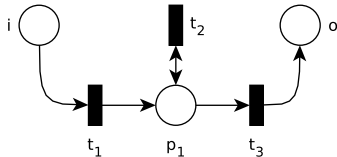

Figure 5 : A Workflow Net PN
- $PN \models_{may} \neg t2 \wedge t3$ is **valid** for the Workflow Net in figure 5.
- $PN \models_{may} t1 \wedge \neg t3$ is **invalid** for the Workflow Net in figure 5.
- $PN \models_{must} t1 \wedge t3$ is **valid** for the Workflow Net in figure 5.
- $PN \models_{must} t1 \wedge t2$ is **invalid** for the Workflow Net in figure 5.